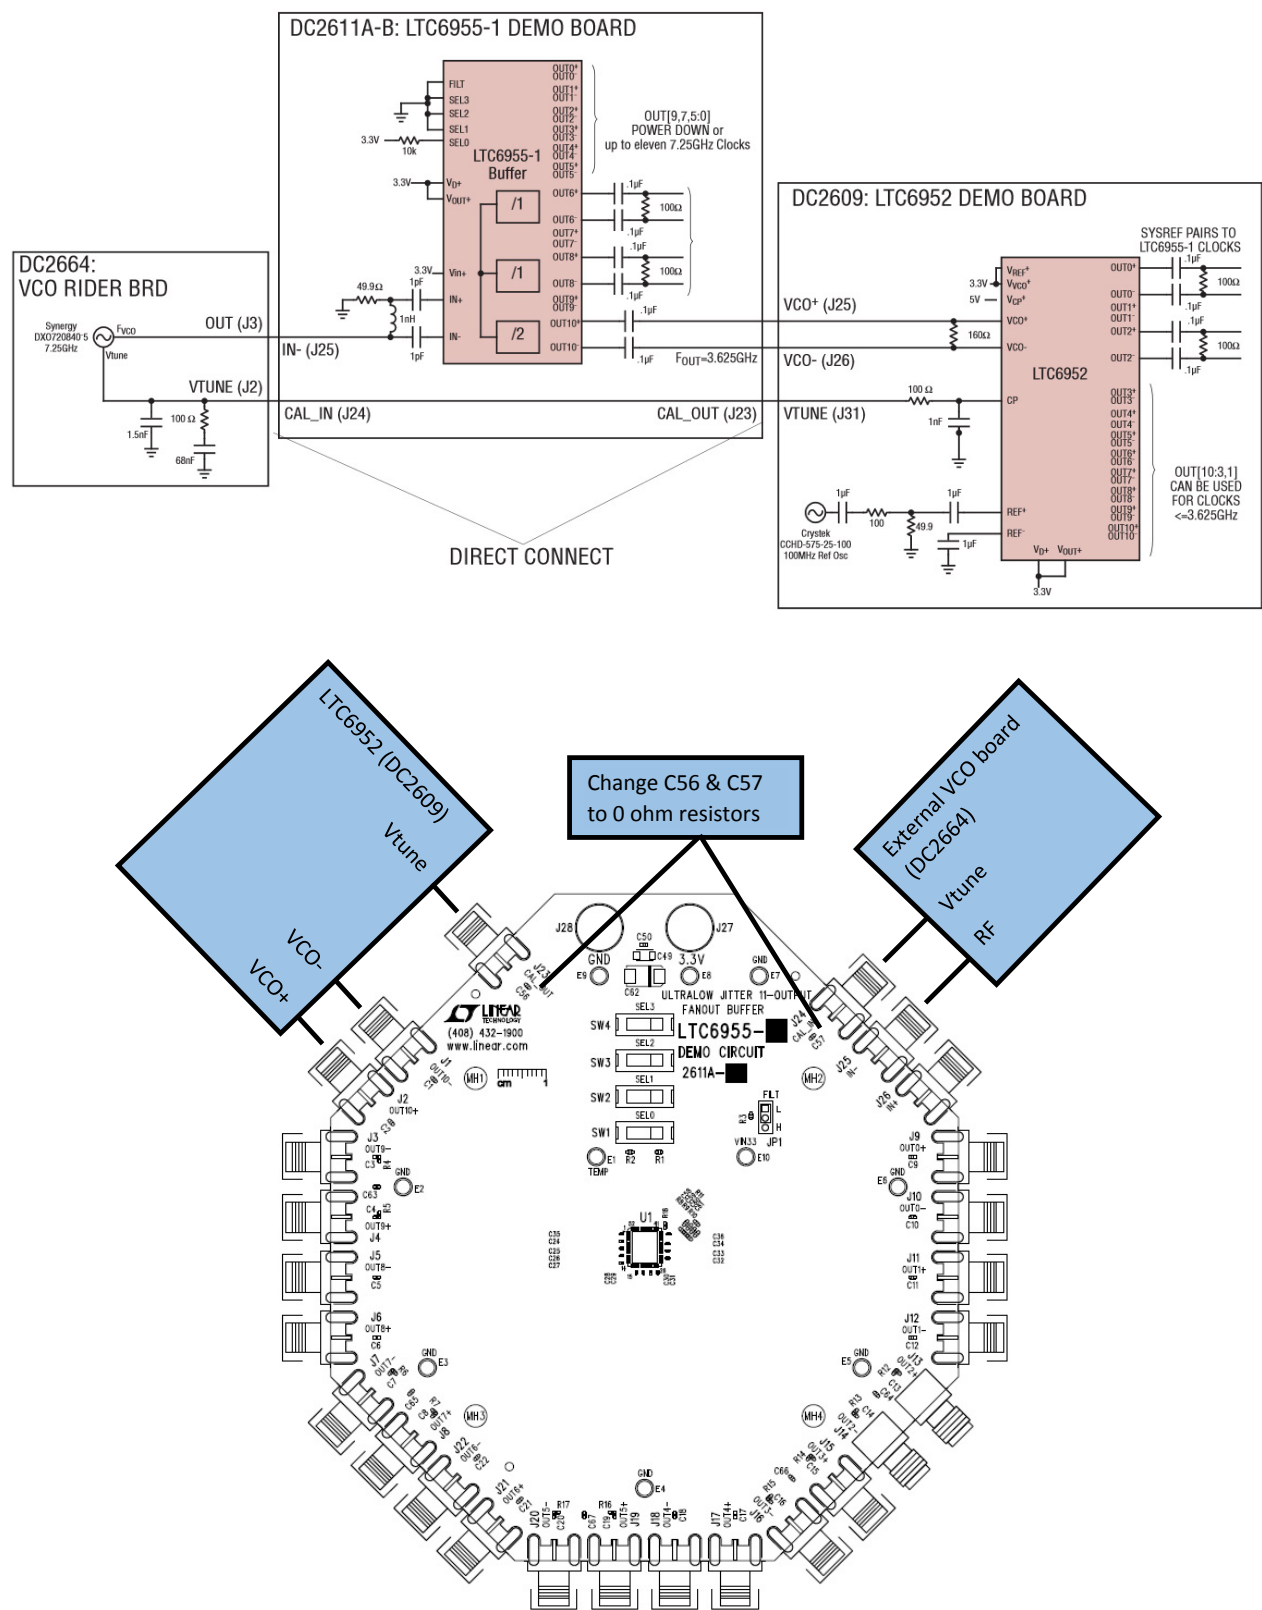

Figure 2. Alternate Configuration, Locking LTC6955 Outputs to an External PLL/VCO
A calibration path is provided to aid in accurate LTC6955 propagation delay measurements. The calibration path can be also reconfigured as a DC path, which allows for a convenient method of locking the LTC6955 outputs to an external PLL/VCO, as shown in Figure 2.
To take advantage of the LTC6955's maximum output frequency and ultralow output additive phase noise, the DC2611A (LTC6955, LTC6955-1), the DC2609A (LTC6952) and the VCO rider board (DC2664A) were designed to mate directly together, as shown in Figure 2. This setup allows for options to lock the LTC6952 reference input to:
- A <7.5GHz VCO and LTC6955-1 output frequency, by utilizing the LTC6955-1 divide by two output on OUT10 to drive the LTC6952 VCO input. (refer to Figure 2)